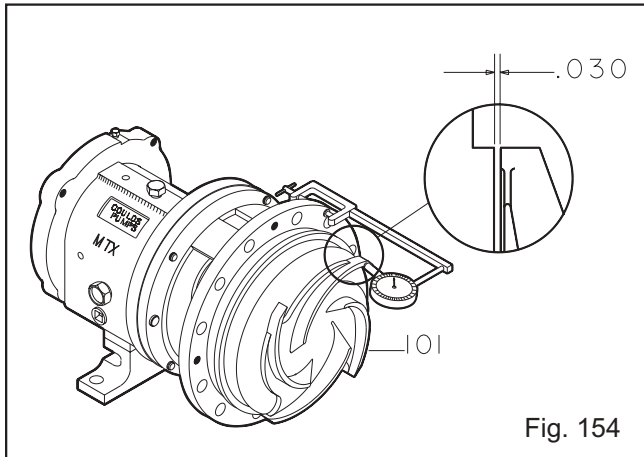

Fig. 154
7. Check impeller (101) runout. Check vane tip to vane tip. If total indicator reading is greater than 0.005 in. (.13 mm), determine cause and correct before proceeding (Fig. 154).